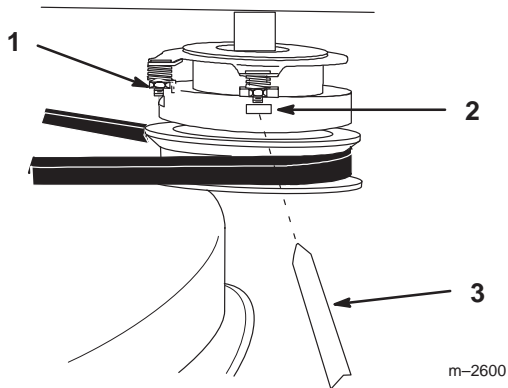

Figure 51
1. To adjust clutch, tighten or loosen lock nuts on flange studs (Fig. 51).
2. Check adjustment by inserting feeler gauge through slots next to studs (Fig. 51).